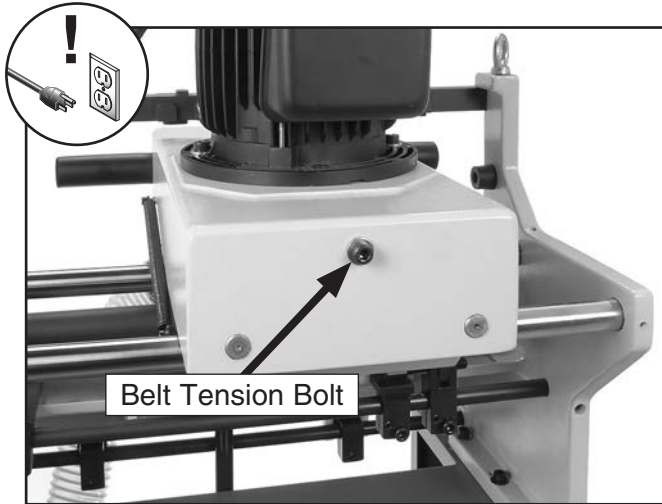

Figure 54. Belt tension bolt.
- Turn the belt tension bolt, shown in **Figure 54**, clockwise to tension the belt.
- Turn the motor tension bolt, shown in **Figure 54**, counterclockwise to loosen the belt.